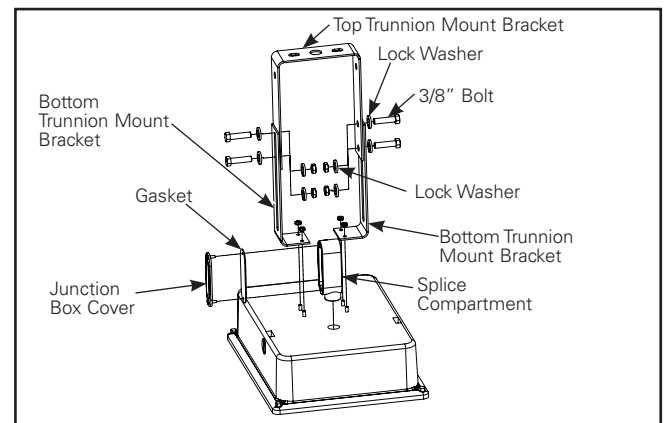

Figure 3.
(See Figure 3.).
2. Install bottom trunnion mount bracket to studs located on top of the light fixture as shown (Figure 3.) using two #10 locking nuts. Repeat for other bottom trunnion mount bracket.